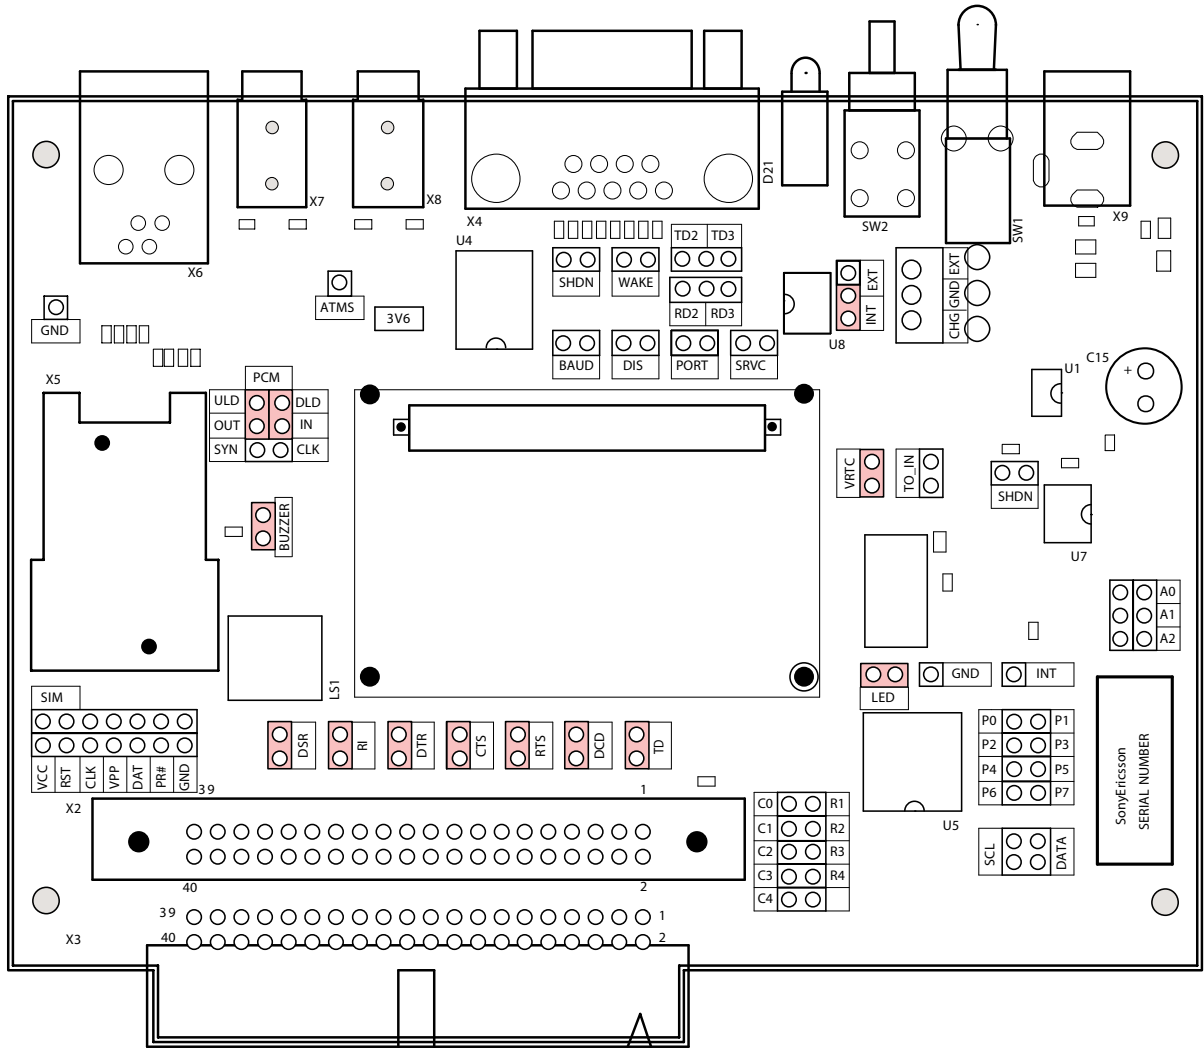

Figure 14.3 Developer's board overlay
- Check the jumpers are in their default positions. Refer to Figure 14.3;
Figure 14.3 shows the developer's board, including the position of all the connectors, switches and jumpers (default positions).